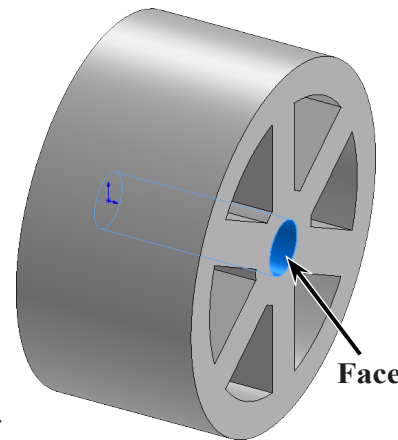

Fig. 18
Step 2. Click the **inside cylindrical face of axle hole** to select it, Fig. 18.